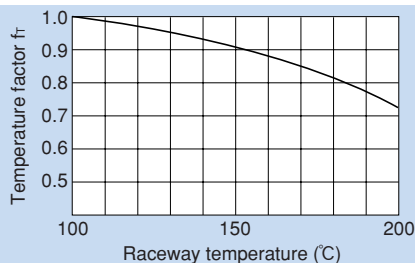

Fig. 3 Temperature factor (f_T)
- C : Basic dynamic load rating (N)
- P_C : Calculated load (N)
- f_T : Temperature factor (see Fig. 3)